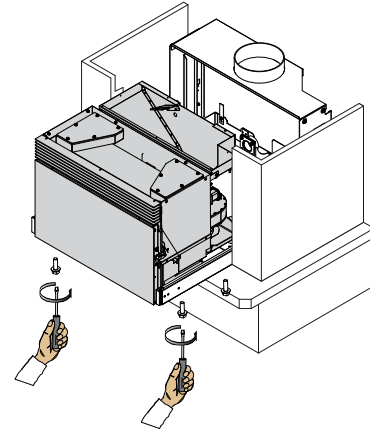

fig. 6.1.11
- 11) Reinstall the fastening screws previously removed in step 6.1.5 (fig. 6.1.11)